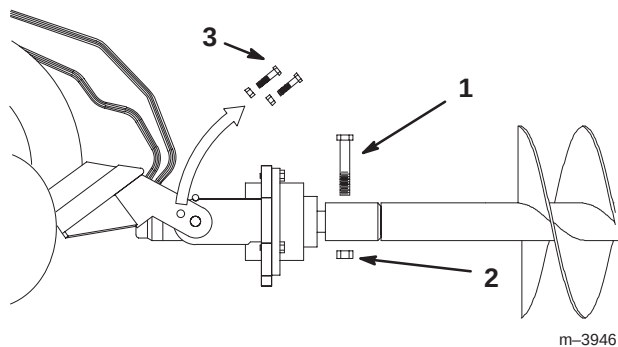

Figure 5
8. Secure the auger to the drive head with the 7/8"-9 x 4-1/2" bolt and 7/8"-11 nut (Fig. 5).
9. Remove the bolts and nuts from the cradle arms that were installed in step 3 (Fig. 5).